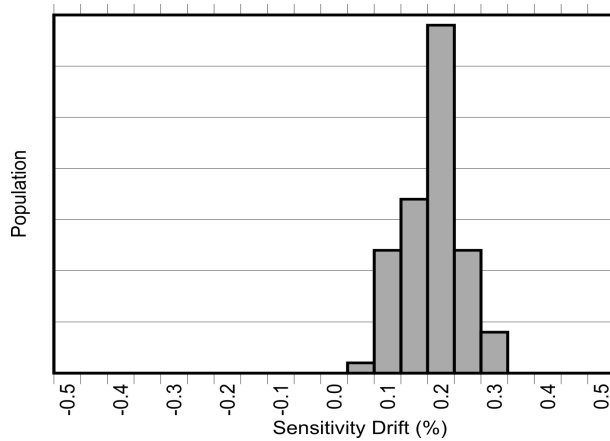
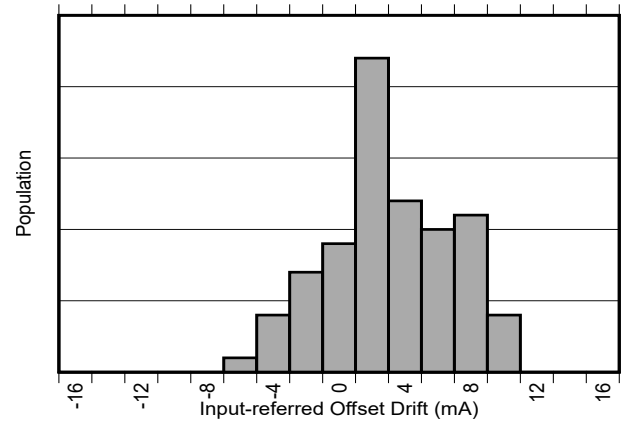

Figure 8-3. Sensitivity Error Drift After AEC-Q100 High Temperature Operating Life Stress Test
Figure 8-4. Input-Referred Offset Drift After AEC-Q100 High Temperature Operating Life Stress Test
In addition to large thermal drift, typical magnetic current sensors suffer an additional 2% to 3% drift in sensitivity due to aging over the lifetime of the device. The same proprietary compensation techniques used in the TMCS1133 to reduce temperature drift are also used to greatly reduce lifetime drift due to aging from stress and environmental conditions especially at high operating temperatures. As shown in the Electrical Characteristics, the TMCS1133 has industry leading lifetime sensitivity drift realized after Highly Accelerated Stress Tests (HAST) at 130°C and 85% relative humidity (RH) during standard three lot AEC-Q100 qualifications. Low sensitivity and offset drift within the bounds specified in the Electrical Characteristics are also observed after 1000 hour, 125°C high temperature operating life stress tests are performed as prescribed by AEC-Q100 qualifications. These tests mimic typical device lifetime operation, and show device performance variation due to aging is vastly improved compared with typical magnetic current sensors. Figure 8-3 and Figure 8-4 show the sensitivity and offset drift after a 1000 hour, 125°C high temperature operating life stress test as specified by AEC-Q100. Device